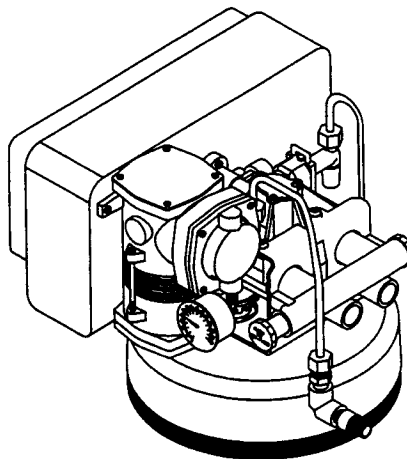

FIG. 17
- Screw in an elbow (PN 00-4416-13) and pressure gauge (PN 00-4486-21). (Fig. 17)